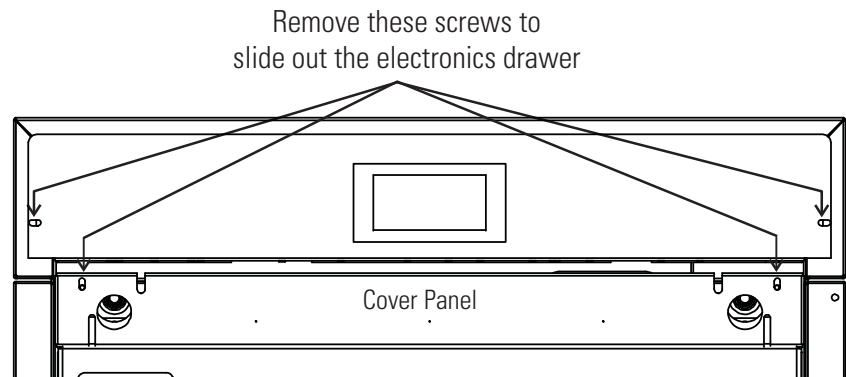

Figure 7-4. Screw Locations
2. Open the exterior cabinet door and remove the four screws shown in Figure 7-4.
6. When wiring is completed, slide the electronics drawer back in being very careful to place the door heater cable back into the provided slot so that the drawer does not pinch the cable. See Figure 7-4.